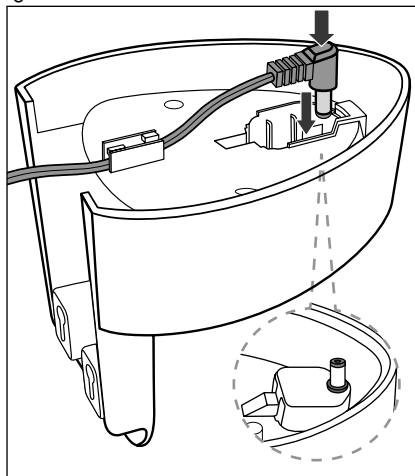

Fig. 2
- First, feed the cable through the cable routing and then push the barrel plug **5** into the opening in the wall bracket **3** so that it is firmly in place (fig. 2).